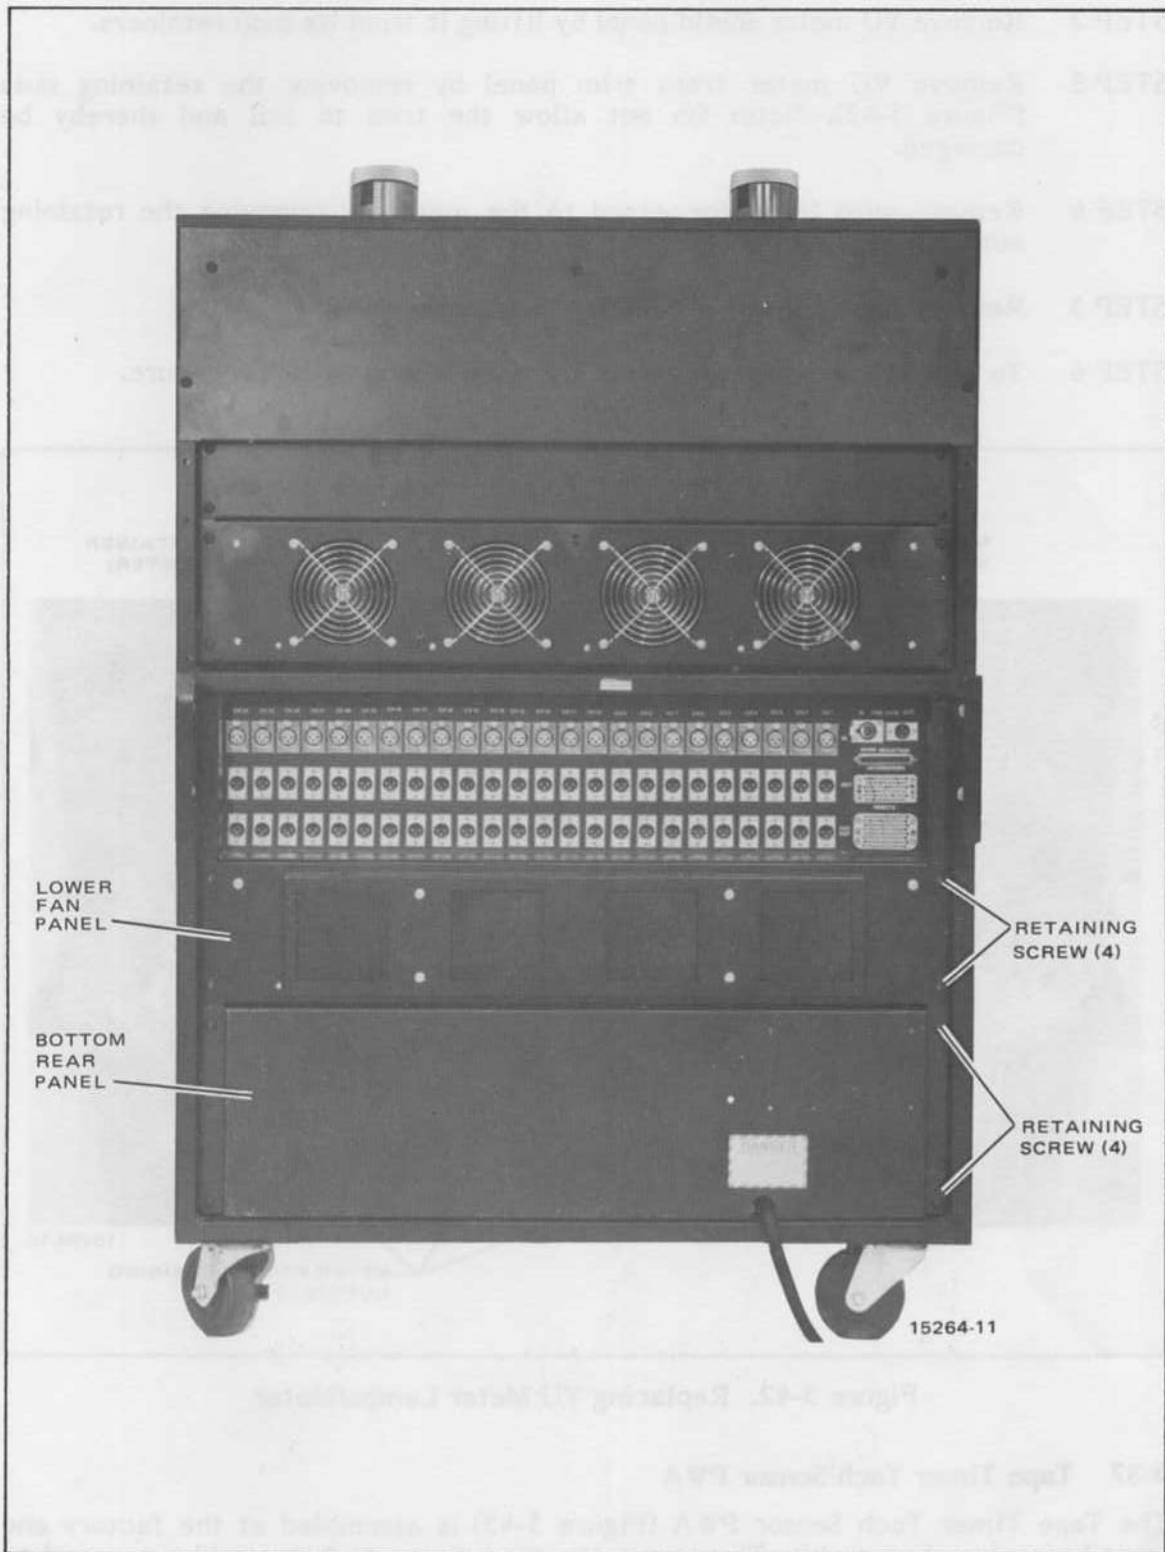

Figure 5-41. Removing Rear Panels
- STEP 2 Remove four screws (Figure 5-41) from bottom rear panel.
- STEP 5 Remove four screws (Figure 5-41) from lower fan panel.